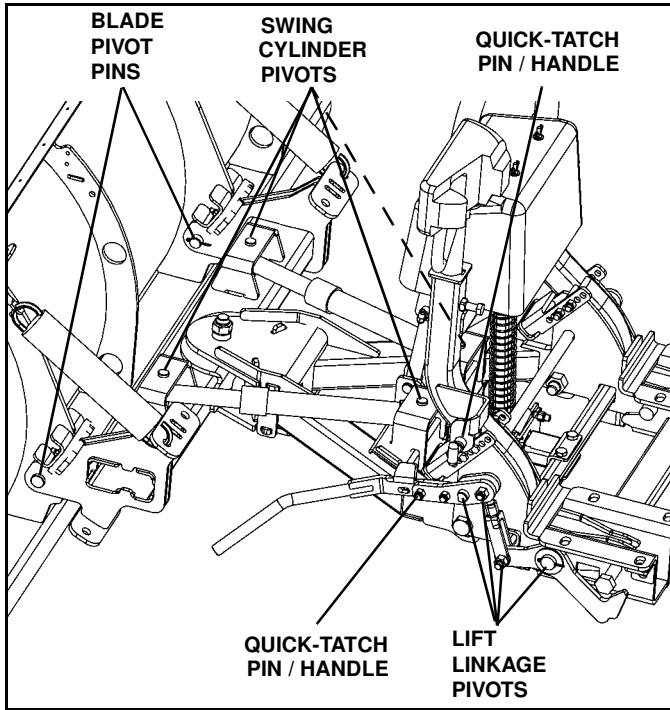

Figure 1-36
3. Apply a small amount of light oil to: attachment pin and handle assemblies, pivot pins between the blade and swing frame, and pivot pins at lift and swing cylinders. Also lubricate jackstand pins. (See Figure 1-36).